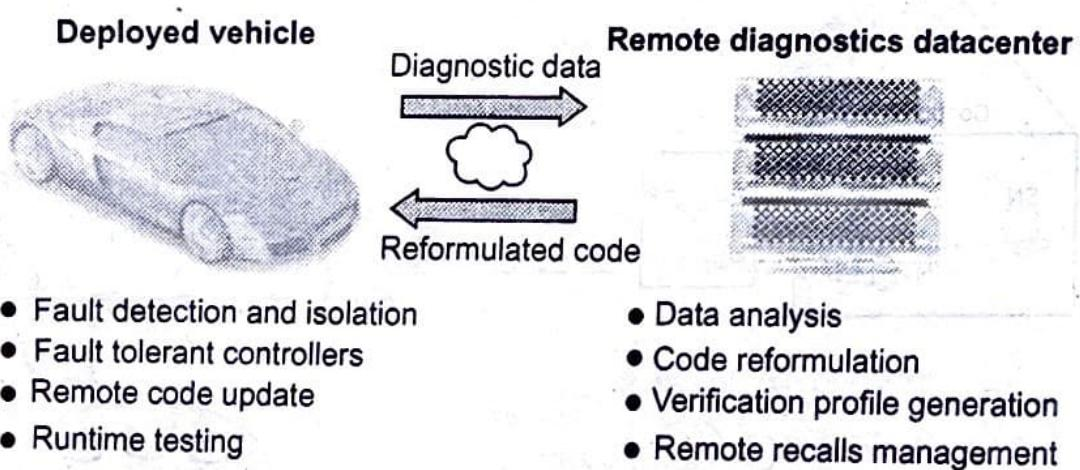

Fig. Q.23.4 Remote vehicle diagnostics solution
- Modern commercial vehicles support on board diagnostic standard. Next generation vehicles will have sophisticated on-board connectivity equipment, providing wireless network access to the vehicle for infotainment and other telematics services. Fig Q.23.4 shows remote vehicle diagnostics.